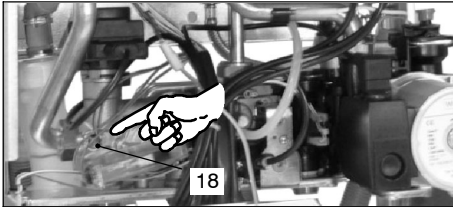

Fig. 8.6
- Disconnect the C.h. temperature probe NTC 18 in Fig. 8.6
- Connect the C.h. temperature probe NTC 18 in Fig. 8.6